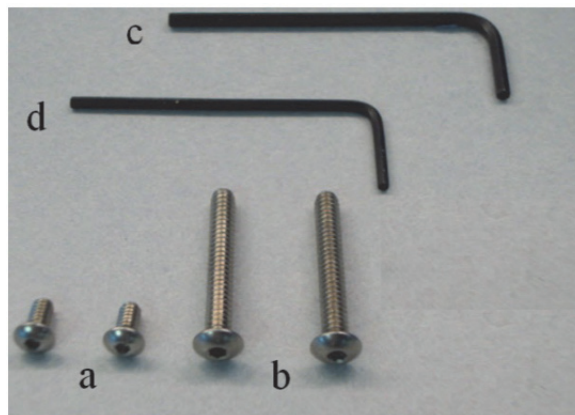

Figure 1
- A. The following supplies are necessary and can be found in a bag attached to the water bottle holder (see figure 1):
- a - Short Screws (2)
- b - Long Screws (2)